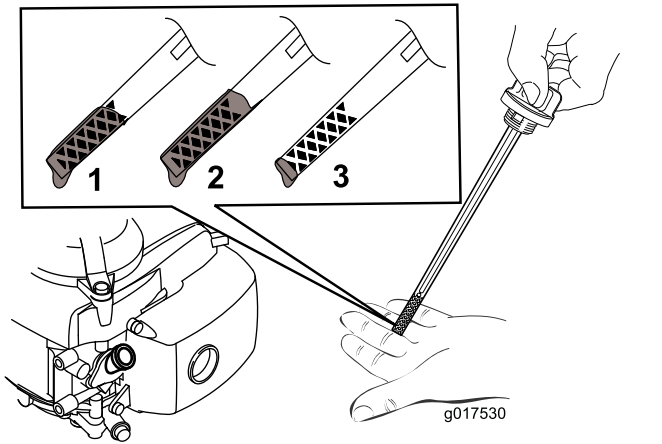

Figure 10
5. To determine the proper oil level on the dipstick, refer to Figure 10.
Note: Fill the engine crankcase with oil until the dipstick indicates that the engine oil level is correct as shown in Figure 10. If you overfill the engine with oil, remove the excess oil as directed in Changing the Engine Oil (page 15).